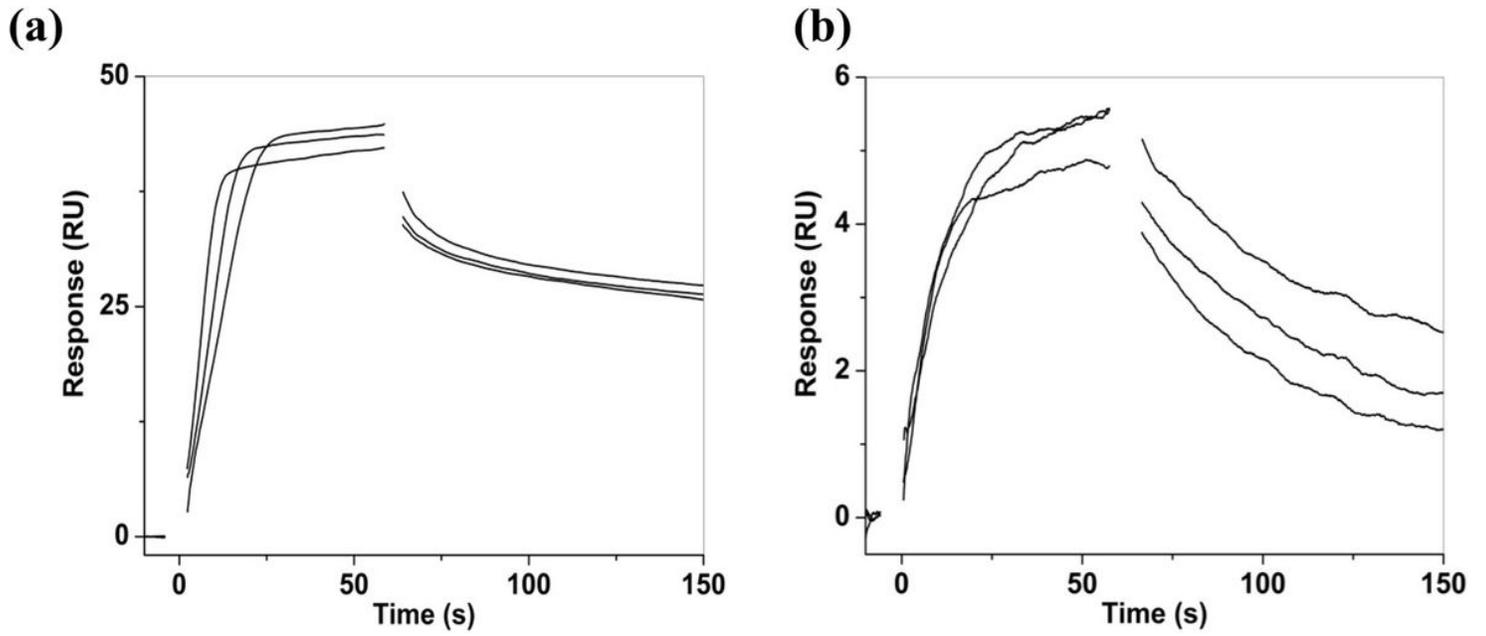
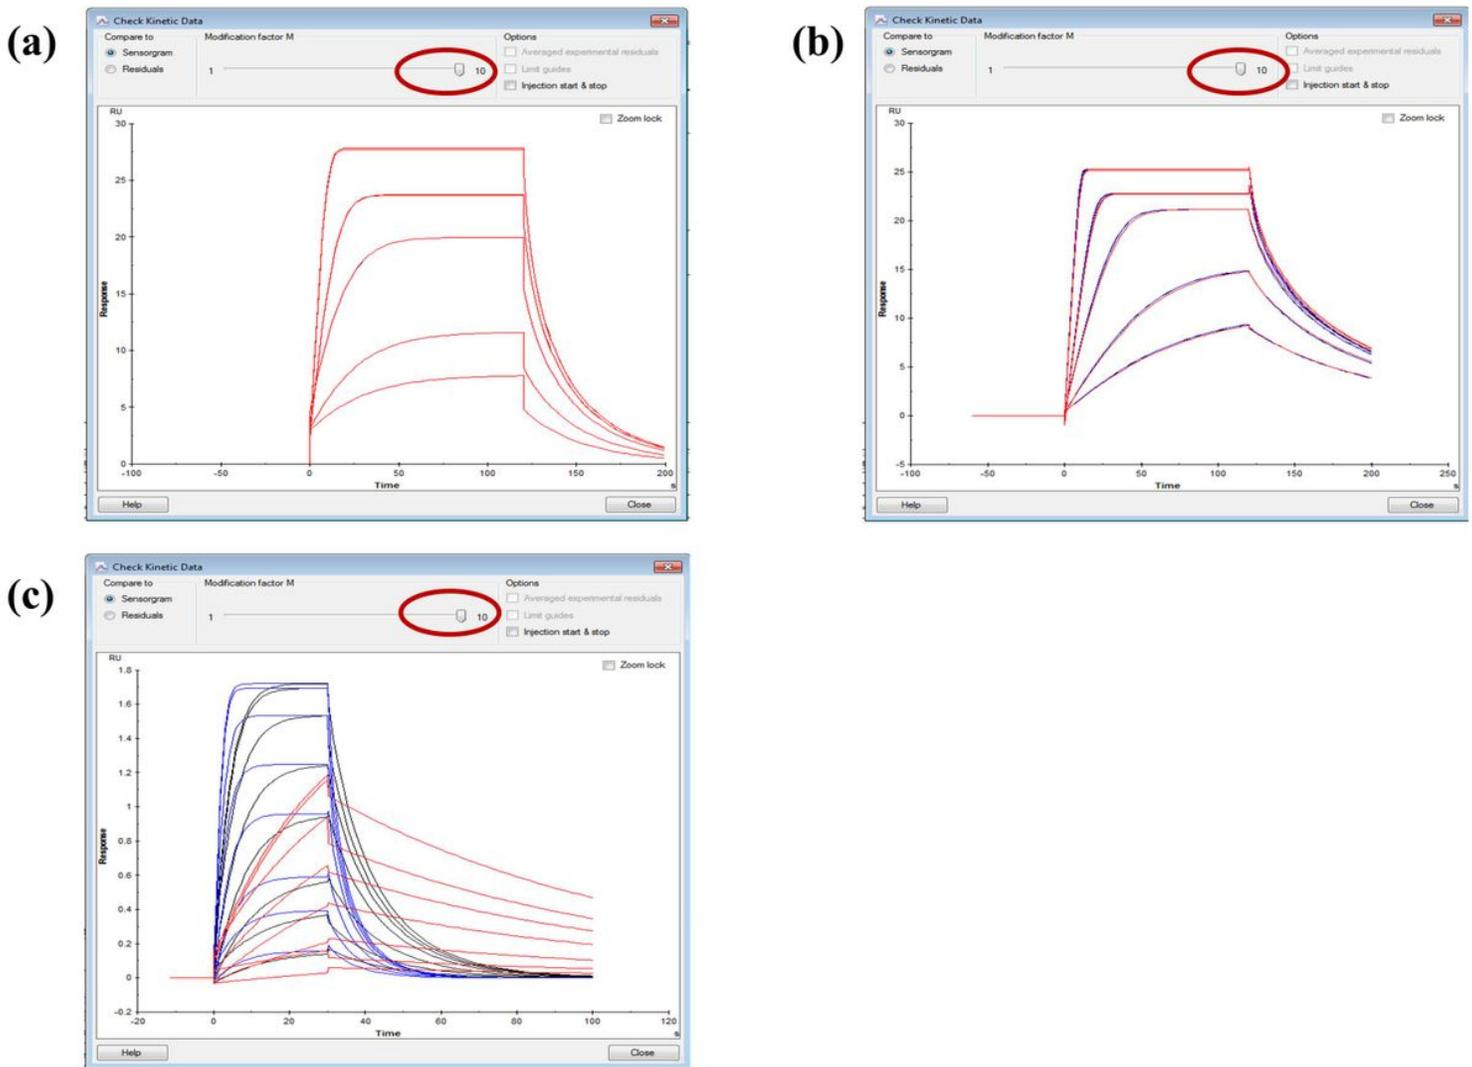
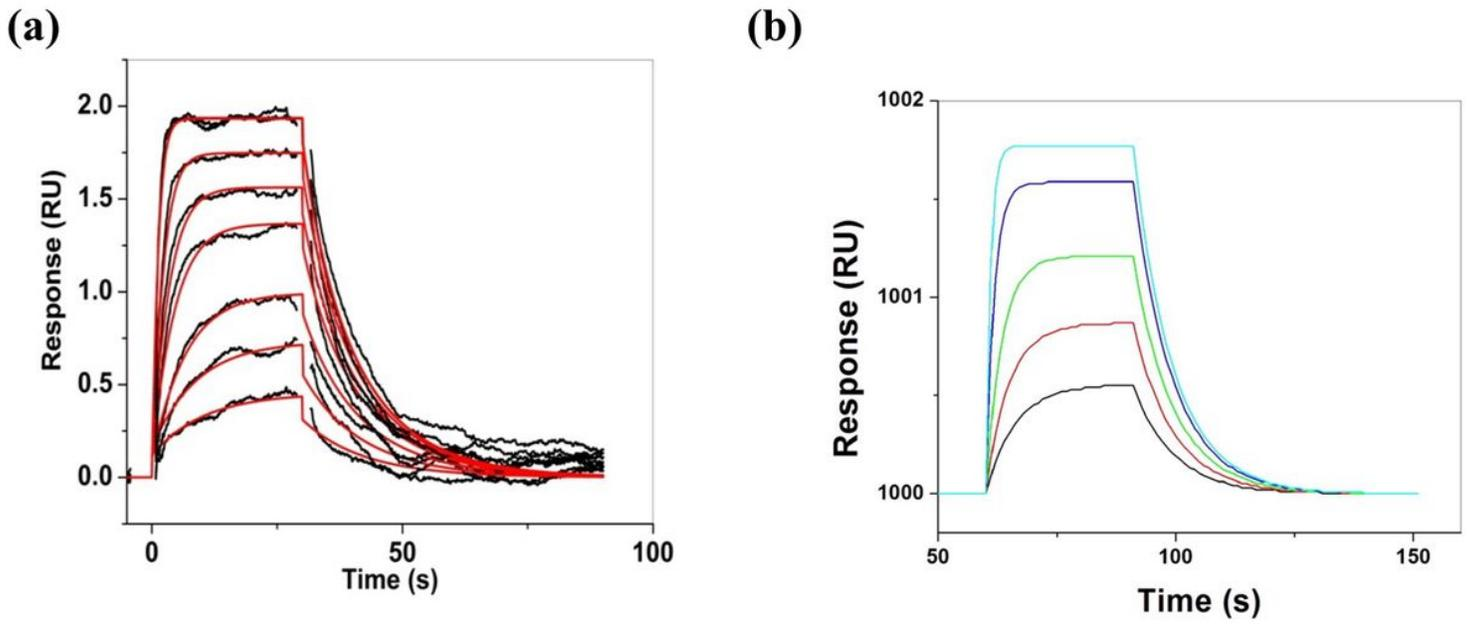

Figure 1
Figure 2
Figure 3
RU. Leave it for 15 min to see any drift in baseline. 68. Change the buffer to 1X HBS-P+/ 100 ug/mL BSA/ 5 mM MgCl₂. Prime the system. 69. To ensure the hairpin-oligonucleotide contains 5'-dideoxy base, inject the sample containing Kf-exo⁻ + 100 mM ddTTP + 1X HBS-P+/ BSA/ 5 mM MgCl₂ buffer for 5 min. 70. Inject 0.05% SDS for 240 s (2μL/min flow rate) and inject running buffer for 5 min. Now the surface is ready for further studies. ****Step 3: Regeneration scouting**** 71. Select the flow path and chip type. 72. Choose number of regeneration buffer set (either 1 or 2). 73. Run conditioning cycles with buffer (1 x HBS-P+/ BSA/ 5 mM MgCl₂ for 30 s and 3 injections). 74. Sample name (Prepare Kf-exo⁻ (5 nM)). 75. Contact time: 30 s and flow rate: 100 μL/min. 76. Scouting parameters: Flow rate: 100 μL/min; Contact time: 30 s; Stabilization period; 300 s; Number of conditions: 3; Number of cycles for each condition: 5; Lock: contact time; Provide names for each regeneration buffer: (0.1% SDS; 0.05% SDS; 1M NaCl in this case). 77. Repeat steps 54-58. (****Critical step:**** Check the binding response and baseline drift of all the cycles.) (****Critical step:**** Running buffer: 1 x HBS-P+/ 100 μg/mL BSA/ 5 mM MgCl₂) ****Step 4: Surface performance**** 78. Repeat steps 71-75. (Flow rate: 100 μL/min; Contact time: 30 s; Stabilization period: 300 s; Number of conditions: 3; Number of cycles: 20) 79. Select the best regeneration buffer from previous assay (regeneration buffer scouting). 80. Repeat steps 54-58. (****Critical step:**** Check the binding response and baseline drift of all the cycles.) ****Step 5: Mass transport**** 81. Repeat steps 71-75. 82. Choose regeneration: Solution: 0.05% SDS (in this case); Contact time: 30 s; Flow rate: 100 μL/min and Stabilization period: 300 s. 83. Input Sample Id; (either one or more samples of different concentrations). Rate should be independent of flow rate (****Figure 1****). 84. Repeat steps 54-58. ****Day 5:**** ****Step 6: Kinetics**** 85. Repeat steps 71-75. 86. Injection parameters: Contact time: 30 s; Flow rate: 100 μL/min; Dissociation time: 60 s; Regeneration solution: 0.05% SDS; Contact time: 30 s; Flow rate: 100 μL/min; Stabilization period: 300 s. 87. Input sample id; concentration; molecular weight etc. (****Critical Step:**** At least each concentration of analyte should be injected in duplicate or triplicate and in random.) 88. Repeat steps: 54-58. ****Step 7: BIAevaluation**** 89. Choose kinetics/Affinity > Surface bound. 90. Select the curves to fit. 91. Zoom the curves to remove the spikes by right click and drag. 92. Select kinetics or affinity to fit the data. 93. Select the model to fit. (start with 1:1) 94. Check the kinetic data in tools. 95. ****Critical Step:**** As the modification factor (M) sliding bar varies, blue and red lines (rate constants increase or decrease) should vary. Otherwise data is limited by mass transport (****Figure 2****). 96. ****Critical Steps:** Check the following parameters** i. How well does the fitted curve overlay with the experimental data. ii. Does the random injection of same concentration of analyte overlay. ii. Check the residual range (between the green lines in BIAevaluation software). iii. Does χ^2 fall within 1% of highest signal response. iv. Does k_a and k_d values fall within instrument specification and check whether it makes any biological significance. v. Make sure T values are significant. For k_a and k_d , T values should be higher and k_t values, it should be as minimum as possible. vi. Mass transport limitation: Check whether data is limited by mass transport (step 95). vii. Check the U value (this feature present in Biacore T200 not in T100). ****Step 8: BIAsimulation**** 97. Once k_a and k_d values are determined, input these parameters in BIAsimulation Basic kinetics module. 98. Compare the curves between simulated and experimental curves (****Figure 3****). ****Step 9: Preparation of reports**** 99. The fitted curves can be plotted by exporting the file in ASCII format by right-click over the curves and imported it in any plotting software.
Effect of mass transport Figure 1. Effect of mass transport limitation. (a) Rate varies with the flow rate (5, 15, 75 $\mu\text{L}/\text{min}$) of Kf-exo due to high DNA surface density (b) Rate is independent of flow rate.